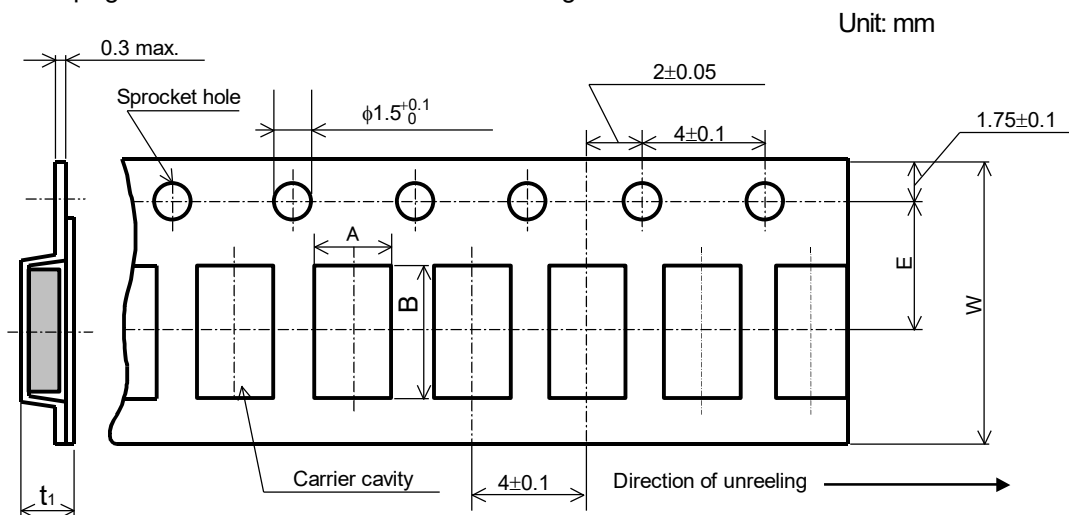

Figure-6
8.2.3 Embossed taping dimensions shall be in accordance with Figure-6 and Table-8.